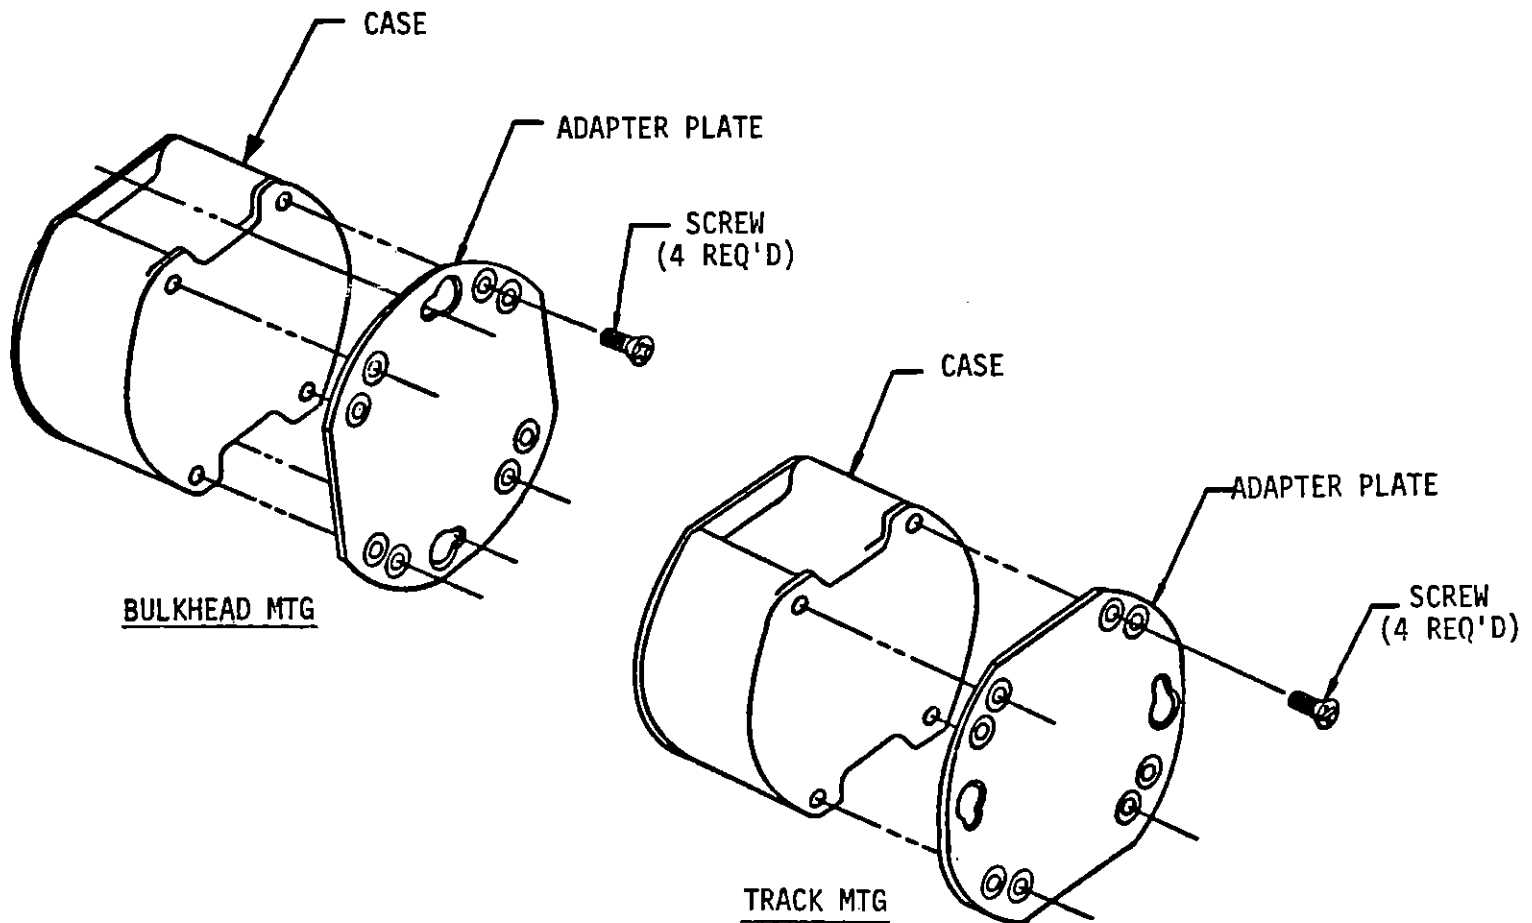

Figure 6-1 Bulkhead and Track Mounting
- a. Adaptor plate for either front-screw-entry surface mount, or TR2/2TK relay track mount (see Figure 6-1).